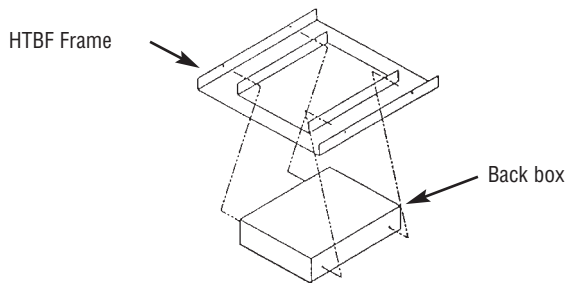

Figure 2
4. Mount the heater backbox to the HTBF kit frame using the four screws provided. Refer to figure 2.